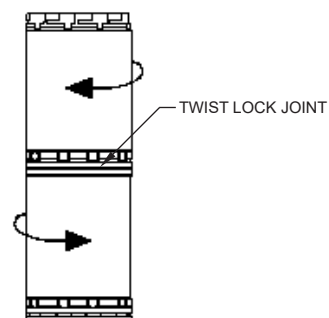

FIG. 5
7. Install Temp/Guard chimney sections starting at the TGCSP. Secure the sections by pushing together and twisting until stop-locked (See FIG. 5). Additional chimney sections may be added to maximum height of 60 feet. At each additional ceiling, a firestop (TGFS-A for Unenclosed Installation) (TGFS-A-C, For enclosed Installation using Clearance Shields) is required. Insert the TGFS-A/TGFS-A-C into the joist area prepared in step 5. Continue this process for each floor level until the area above the attic.